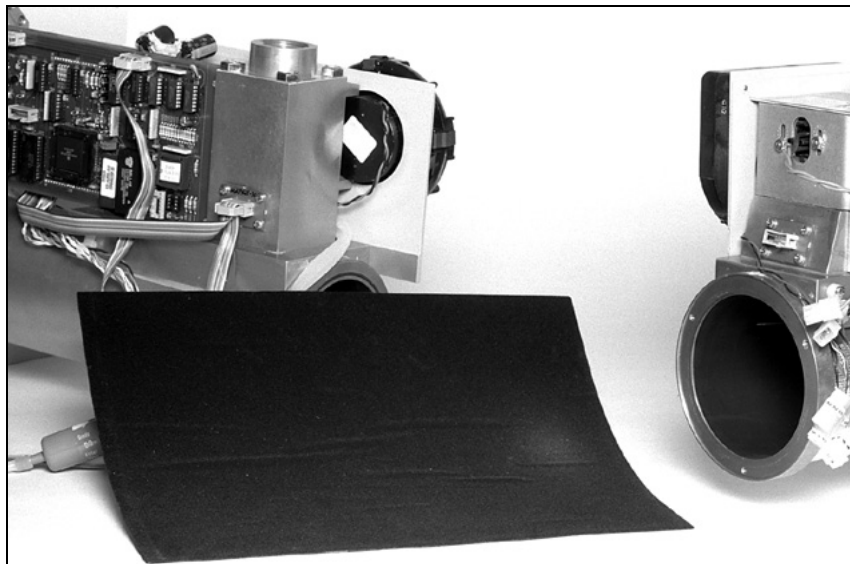

Figure 8-35
7. Pull the flocked paper from the outlet section (Figure 8-35).